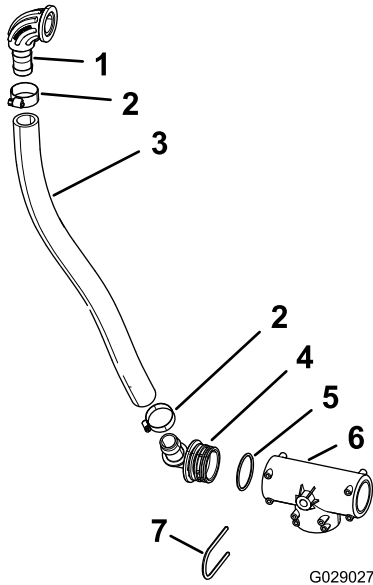

Figure 36
1. Insert the flanged elbow that you removed in step 3 of Removing the Inlet Hose \(page 19\) into the inlet hose 2.5 x 66 cm (1 x 26 inch) and secure the fitting with the clamp that you retained (Figure 36)
2. Insert the barbed end of a 90° hub fitting into the other end of the inlet hose and secure it with a hose clamp as shown in Figure 36.
3. Assemble an O-ring into the O-ring groove of the 90° hub fitting (Figure 36)
4. Insert the hub of the 90° fitting into one end of the upper T-fitting (Figure 36) and secure the hub fitting the T-fitting with a retainer.